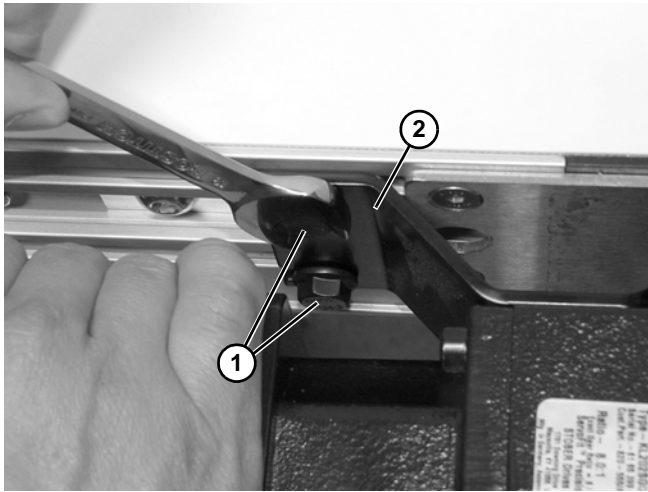

Figure 60
4. Loosen two fasteners (**Figure 60, item 1**) and slide fasteners and tee bars out of slots in mounting plate (**Figure 60, item 2**).